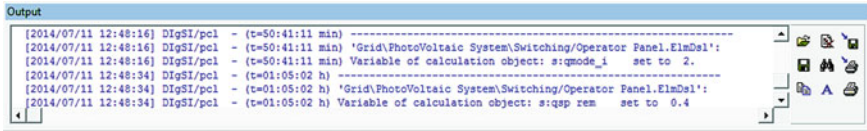

Fig. 16.20 PowerFactory output showing change in Q mode and set point
- Check the output window for messages about the change in Q mode and Q set point (see Fig. 16.20).